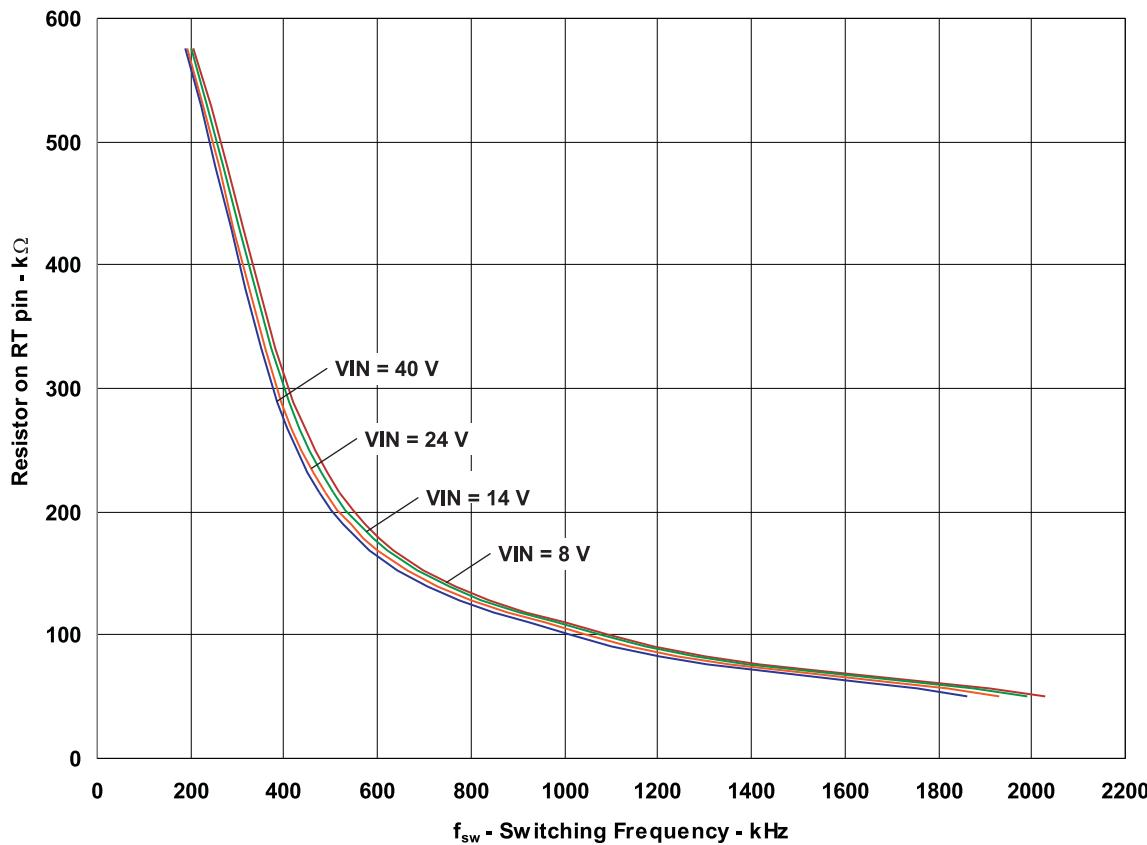

Figure 23. Switching Frequency vs Resistor Value
The oscillator frequency can be set by connecting an external resistor (R8 in Figure 4) to RT pin (pin 6). Figure 23 shows the relation between the resistor value (RT) and switching frequency (f_{sw}). The switching frequency can be set in the range 200 kHz to 2200 kHz. In addition, the switching frequency can be imposed externally by a clock signal (f_{ext}) at the SYNC pin.
Knowing the switching frequency, the value of resistor to be connected at RT pin can be calculated using the graph shown in Figure 23.